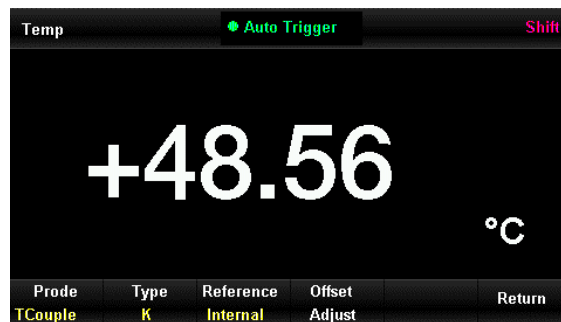

Figure 2-27 Interface of temperature measurement
1) Press **Shift** button and then press **Temp** button to enter interface of temperature measurement as Figure 2-27.